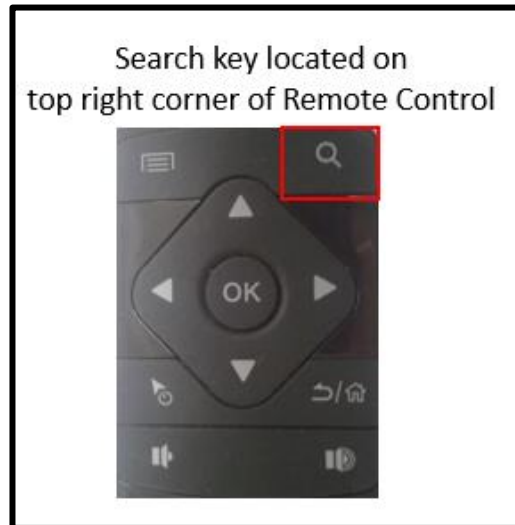

Figure 8
- Press the “Search” key on the Compact Remote Control. (Figure 8)